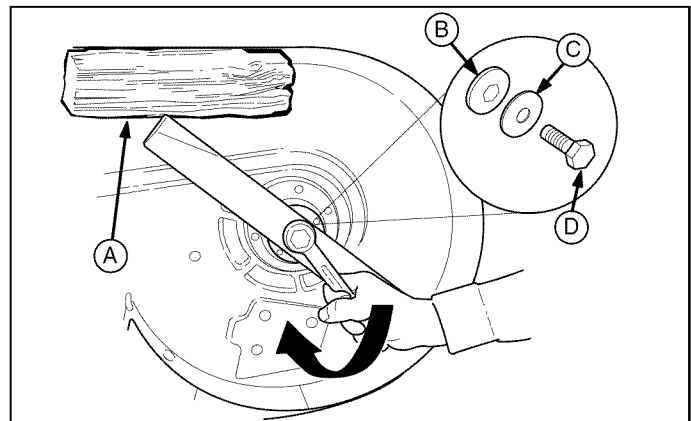

Figure 30. Blade Installation - 38", 44", 50" Mowers
3. **38", 44", & 50" Mowers:** Remove the capscrew (D, Figure 30), spring washer (C), hex washer (B), and blade.
7. **38", 44", & 50" Mowers:** Reinstall the hex washer (B, Figure 30), spring washer (C) and capscrew (D). Use a wooden block (A) to prevent blade rotation while tightening the capscrew (D) to 61-75 N.m (45-55 ft. lbs.).